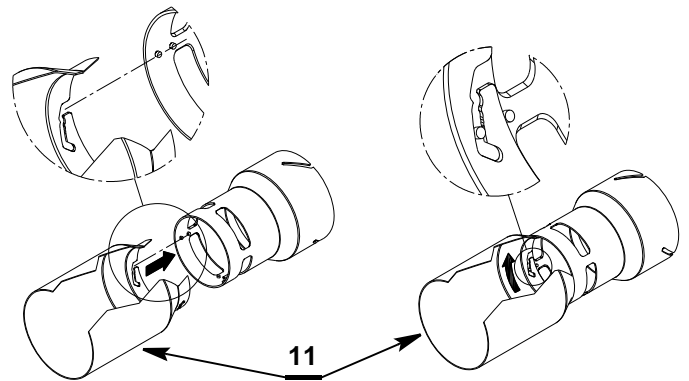

Fig. 28
- Fix the sleeve 11) (Fig. 28) following the indications in the figure.